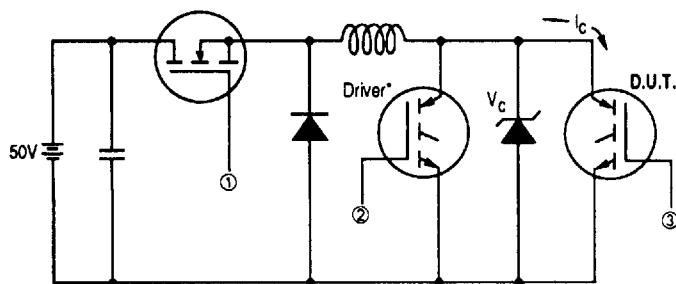

Fig 13a. Switching Loss
② $V_{CC} = 80\%$ (V_{CES}), $V_{GE} = 20V$, $L = 10\mu\text{H}$, $R_G = 10\Omega$. (See Fig. 13a).
③ Pulse width $\leq 5\mu\text{s}$, single shot.